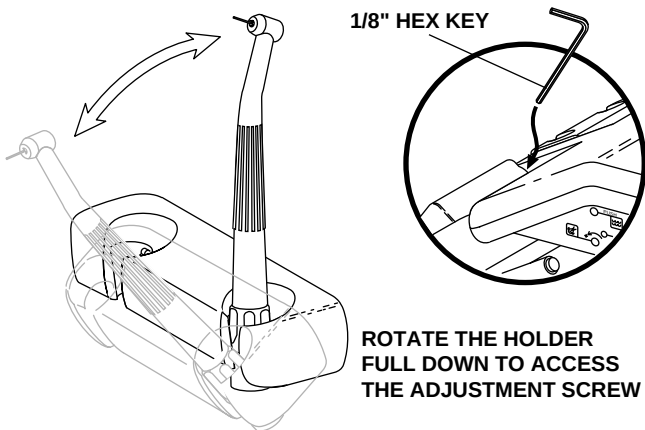

Figure 8A. Unitized Handpiece Holder
- Loosening or tightening the tension adjustment screw shown in Figures 8A and 8B.